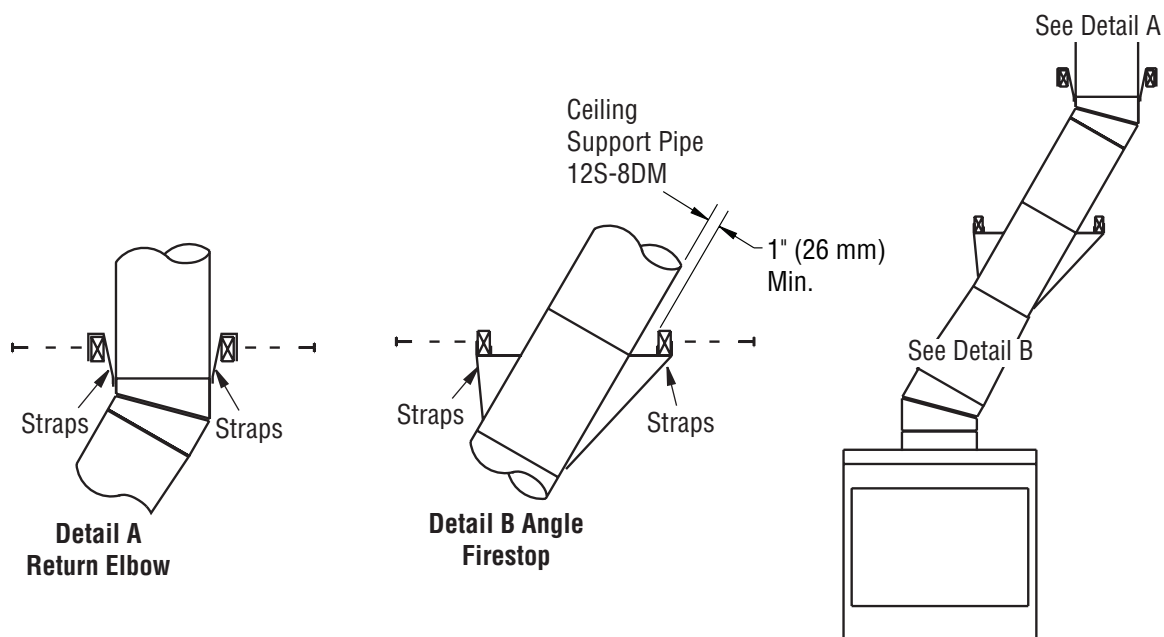

Figure 10 - Ceiling Support Pipe 12S-8DM
2. Chimney weight above offset rests on return elbow. Straps must be securely nailed to rafters or joists (see Figure 10, details A and B, page 9).